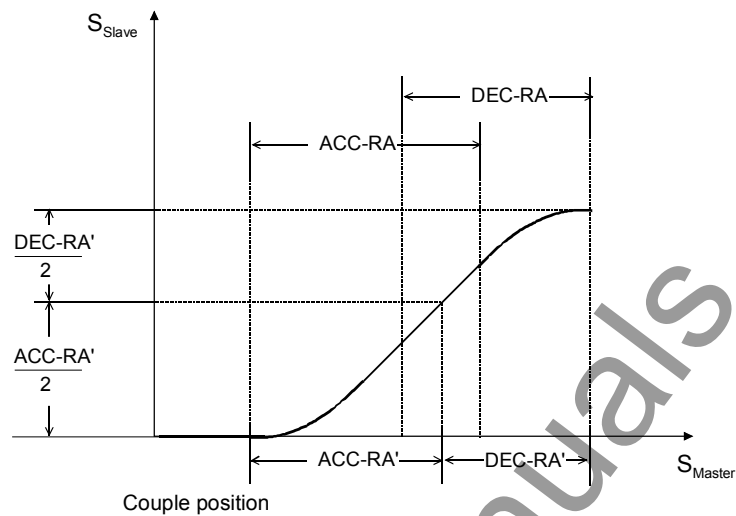

Fig. 10-8 Start cycle with special configuration U475=111
- ◆ A state of synchronization is not reached because the decoupling position is in the acceleration ramp. A peak travel is reached with a newly calculated intersection between the acceleration and deceleration ramps. The calculated new length of the acceleration ramp (ACC-RA') or deceleration ramp is shown in Fig. 10-8 or can be calculated using the following formula :